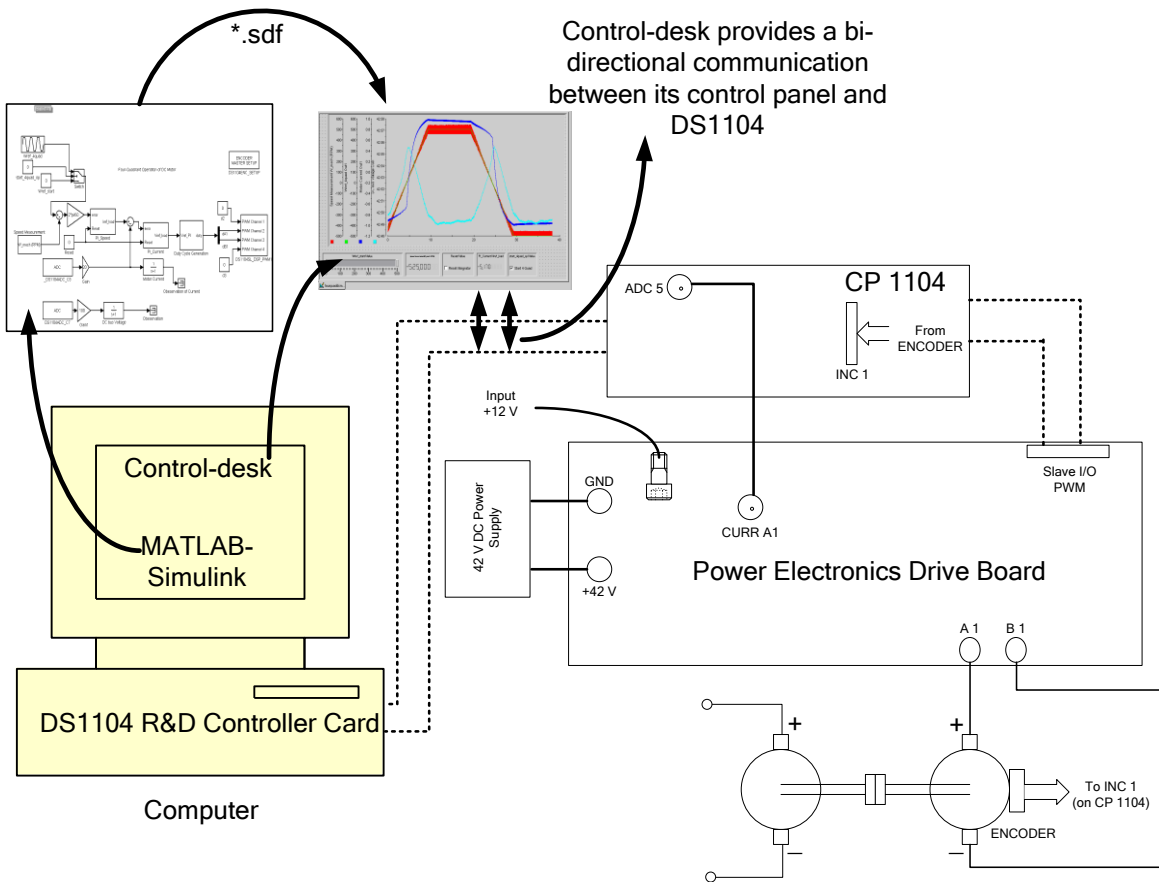
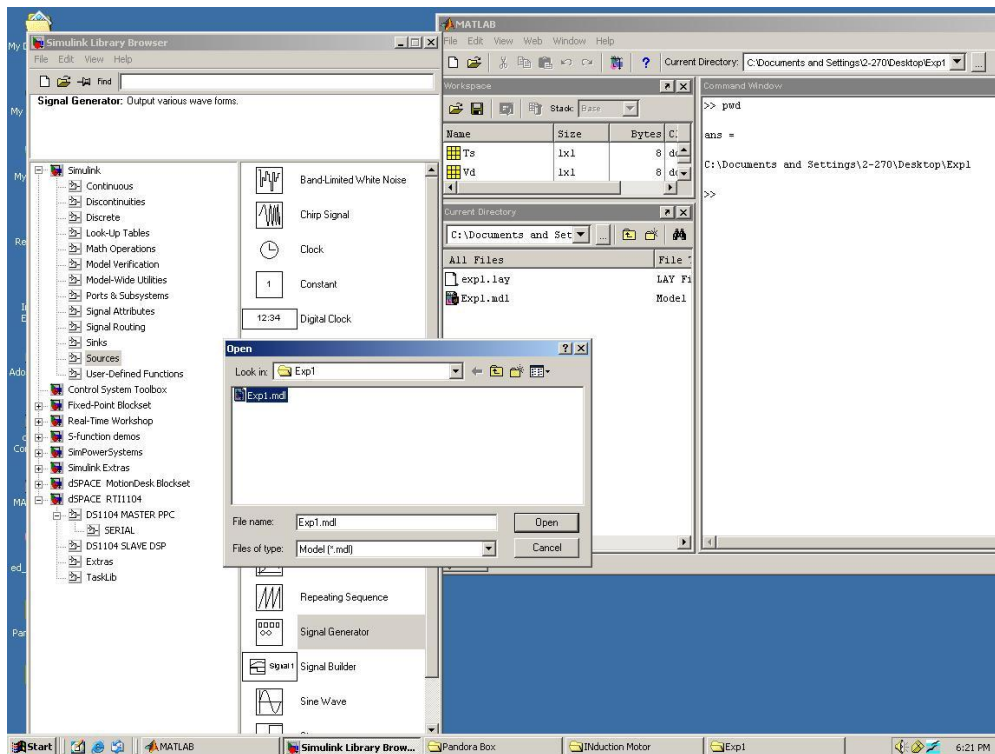

Figure 1.3: Demonstration of DC motor speed-control
Figure 1.4: Opening the Simulink file Exp1.mdl, changing the path of current working directory
**system.** This file gives access to the variables of **control-system** (like reference speed, gain, tuning the controller etc) to a separate software called Control-desk. In this software a control panel (see Fig 1.3) can be created that can change the variables of **control-system** in real time to communicate with DS1104 and hence change the reference quantities such as the speed or torque of the motor.
The system for the speed-control of a DC motor is shown in Fig 1.3. Note that the currA1 (i.e. phase-current of DC motor) and encoder signal (speed of DC motor) is fed back to the DS1104 board via CP 1104. The requirement of feeding back phase-current and speed of the motor will be studied in experiment-4. For now, assume that these two quantities are required to control the speed of DC motor. Perform the following steps to run the experiment. The communication between the four components (explained in section 1.2) is detailed in each step, wherever necessary.
- Connect the circuit as shown in Fig 1.3. You are given with files **Exp1.mdl** (Simulink **control-system** file) and **Exp1.lay** (control panel in Control-desk). Create a new folder on desktop as **Exp1** and bring these two files into that folder. Open MATLAB Simulink and set the folder **Exp1** as the path of the current working directory. Verify in the command window for the correct path (Fig 1.4). Open the Simulink file **Exp1.mdl** as shown in Fig 1.4.